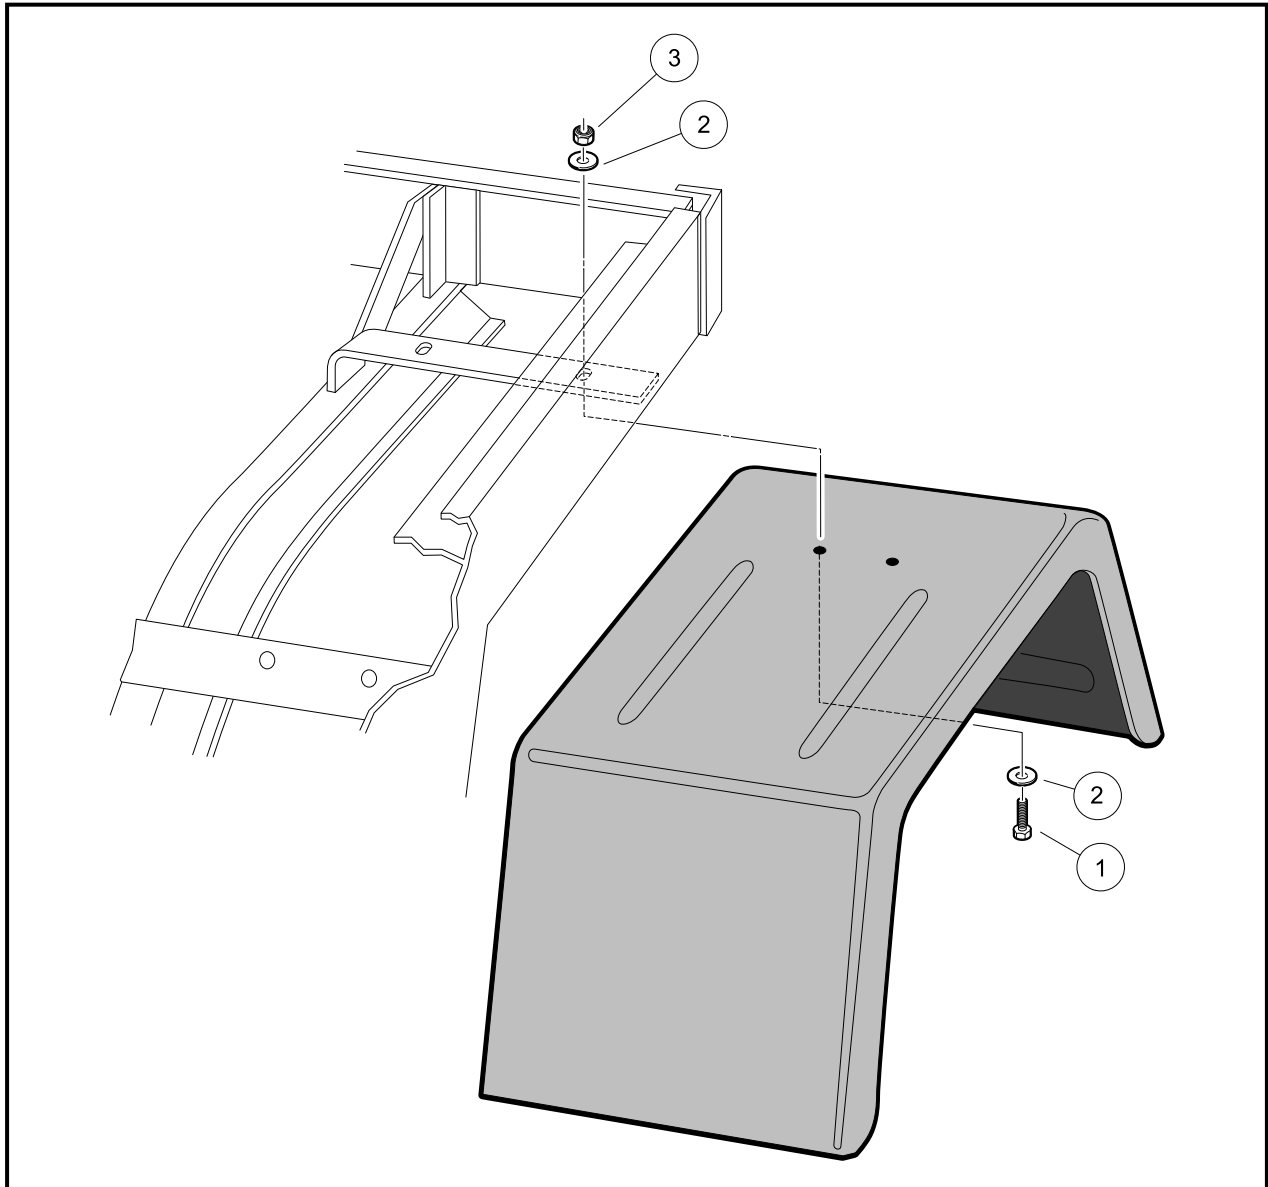

Figure 23 Install Hardware in Fender Hole
3. Position a fender in the vehicle, align the hole in the fender with the slot in the frame as shown and install bolt (1), flat washers (2), and locknut (3) (**Figure 23, Page 35**). Finger-tighten only at this time.